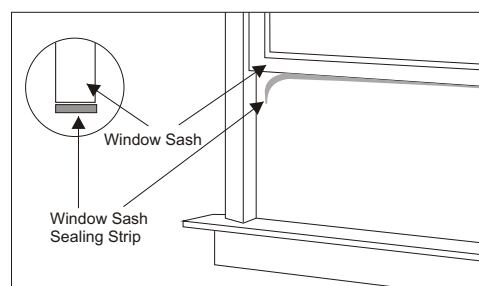

Fig. 9
D. Cut the **sash seal** to fit the underside of the bottom **window sash**. Remove the peel-off backing on the foam and attach it to this sash. See (*Fig. 9*).